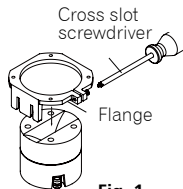

Fig. 1
1. Place the main unit gently with the horn part up. Loosen the flange screws and install the main unit with the orientation shown in Fig. 1.